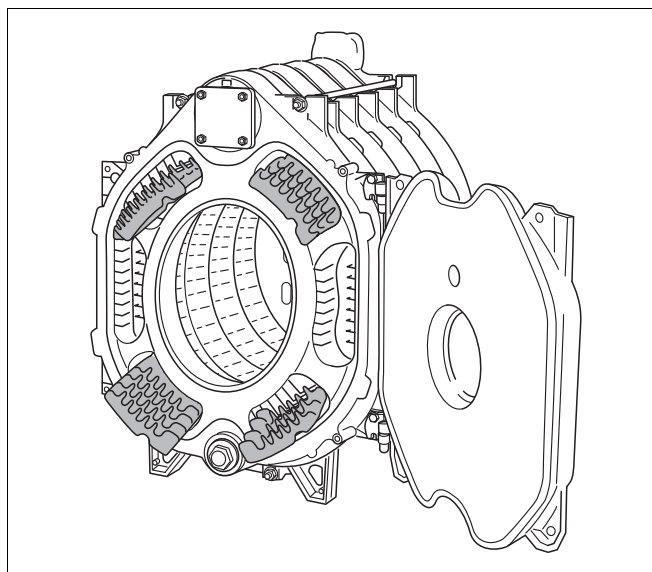

Fig. 27 Hot gas baffle plates
- Remove the hot gas baffle from the fitting crate and insert it into the hot gas ways according to the **instructions cast into the baffle body** (see Fig. 27 and the following table).